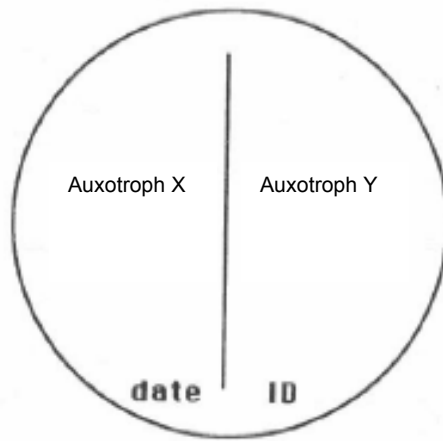

Figure 4. Before plating, make sure the bottom of your plate is carefully labelled with strains, date, and group identification.
2) Each of the auxotrophic strains will be plated next to each other in pair-wise combinations. Label these **feeding trial** plates on the bottom to indicate which strains will be plated, one on each side. Write the date in the center bottom edge of the plate and indicate your group using the initials of the group members (Figure 4).